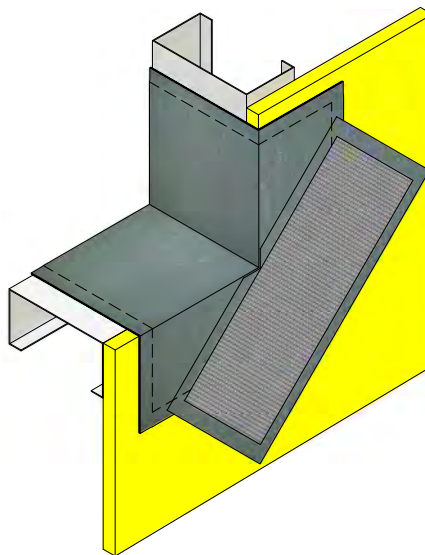

Figure 9
5. Cut SHEATHING FABRIC to desired size. Place the SHEATHING FABRIC into the wet ACROSTOP-R. (See Figure 9)